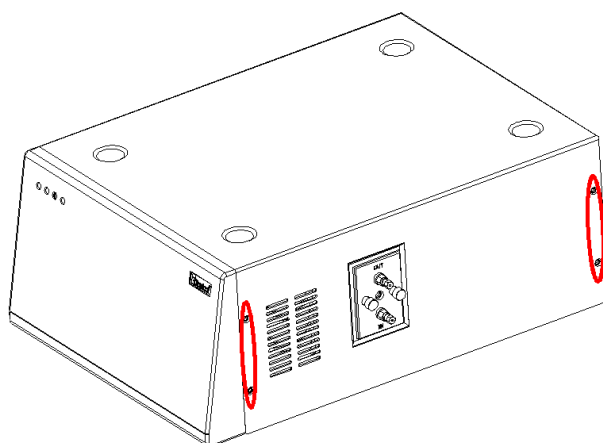

Figure 5-1 Schematic diagram of housing fixing screws position
- 1) Take off the flow cell, and unscrew the housing fixing screws (8), open the cover, as shown in Figure 5-1.